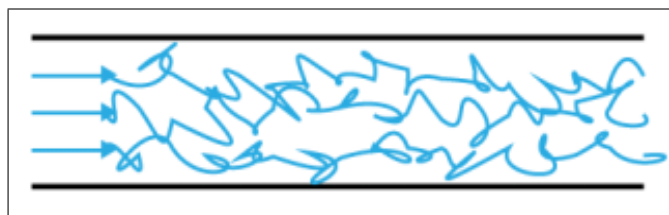

Figure 5.3: Turbulent flow.
5.2.2 Turbulent flow (Figure 5.3)